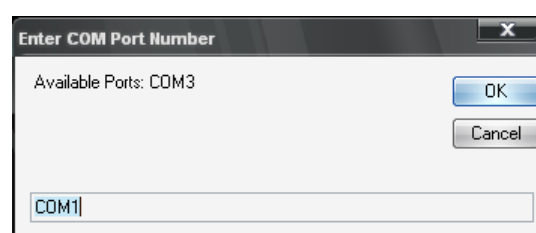

fig. 5.2. Available ports
- 2) in the window that appears, select the COM port number from the list of available ports (fig. 5.2) and enter the required COM port number at the bottom of the window (input line).